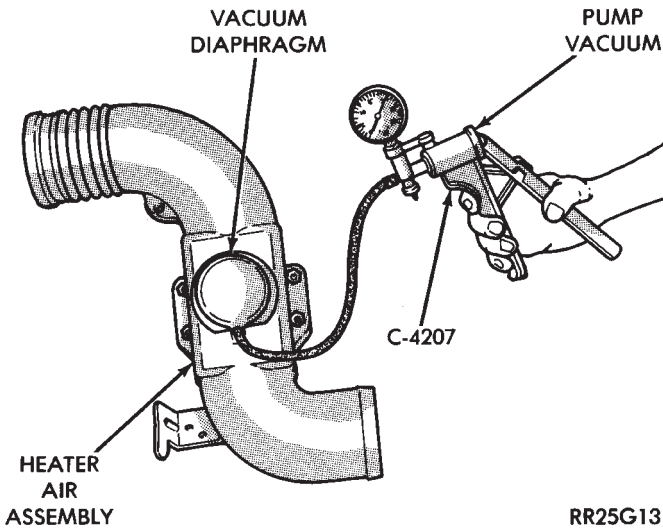

Fig. 3 Testing Vacuum Diaphragm on Heated Air Inlet Systems
(1) Inspect the condition of the heat stove to air cleaner flexible connector and all vacuum hoses. Inspect them for proper attachment. Replace as necessary.
(2) With a cold engine and ambient temperature less than 46°C (115°F), the heat control door (valve plate) should be in the **up** or **heat on position**.
(3) With the engine warmed up and running, check the air temperature entering the snorkel or at the sensor. When the air temperature entering the outer end of snorkel is 60°C (140°F) or higher, the door should be in the **down position (heat off)**.
(4) Remove the air cleaner from the engine and allow it to cool down to 46°C (115°F). With 20 inches of vacuum applied to the sensor, the door should be in the **up** or **(heat on position)**. If the door does not rise to the **heat on position**, check the vacuum diaphragm for proper operation.
(5) To test the diaphragm, apply 20 inches of vacuum to the diaphragm with vacuum pump tool number C-4207 or equivalent (Fig. 3). The diaphragm should not bleed down more than 10 inches of vacuum in 5 minutes. The door should not lift off the bottom of the snorkel at less than 2 inches of vacuum. The door should be in the full **up** position with no more than 4 inches of vacuum.
(6) If the vacuum diaphragm does not perform adequately, replace the heated air assembly.